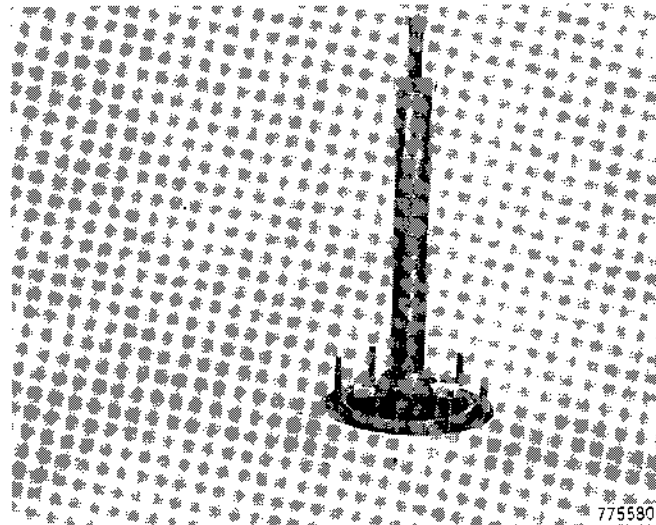

Figure 25
- b. Shop made puller can be used as shown in Figure 25.